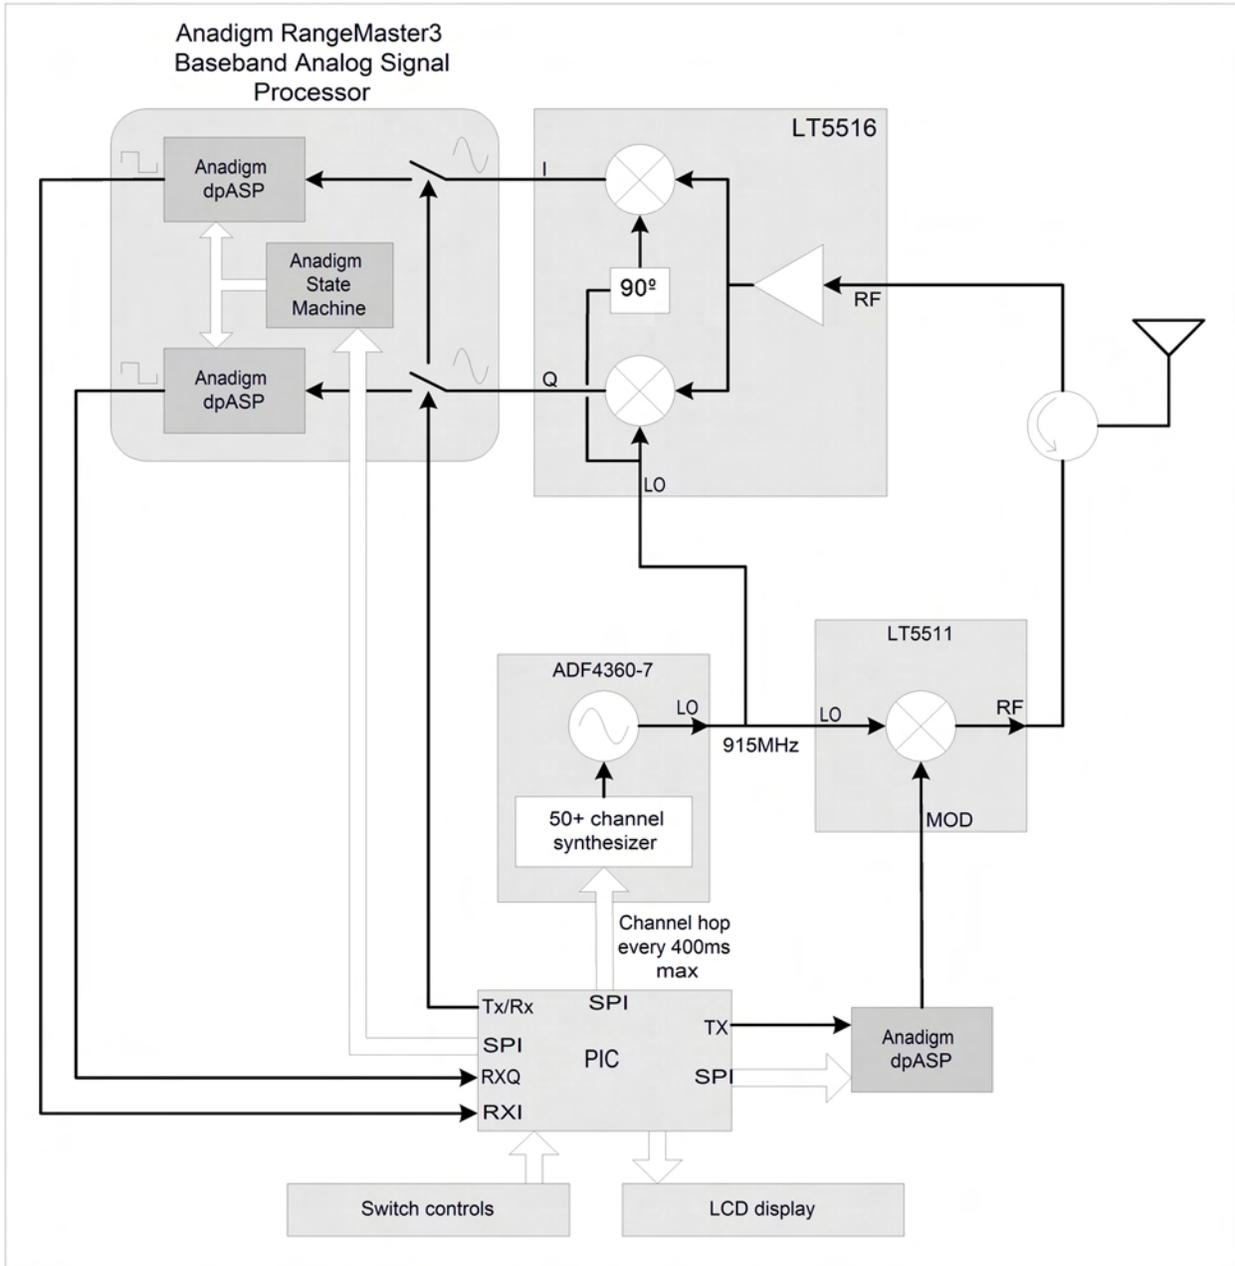

Figure 1: RFID Reader block diagram
An RFID Reader works by first transmitting information to a tag by modulating an RF signal, typically in the range 860MHz – 960MHz. The tag receives both information and operating energy from this RF signal, and then responds by modulating the reflection coefficient of its antenna, thereby backscattering an information signal to the interrogator. The reader has to transmit a continuous-wave signal to the tag in order to receive the tag's response. This means that the reader has to extract small low frequency modulations from the large high frequency transmit signal. It does this by mixing a reference signal, which is the un-modulated transmit carrier signal, with the receive signal to cancel out the transmit frequency, leaving just the modulation frequencies. An example of such an RFID reader is shown in figure 1.
In figure 1, the system controller of the RFID reader is a PIC. This performs the following functions:
2. Controls the channel hopping – there are regulations that demand that a reader must randomly channel hop between a set of carrier frequencies at regular intervals. In the US the regulations (FCC Part 15.247) demand channel hopping using a minimum of 50 channels with a maximum dwell time of 400mS. In figure 1 an ADF4360-7 provides the 915MHz carrier signal with multiple channels controlled by the PIC via a serial interface..
In figure 1, the receive signal demodulator is shown as an LT5516. This circuit takes a reference oscillator which in this case is the 915MHz generated by the ADF4360-7. It then mixes the received signal with this reference oscillator to reproduce the modulation signal. Since it is possible to get a zero signal out of a mixer by sampling the received signal at a zero crossing, 2 mixers are used in the LT5516 down-converting mixer, each using a version of the reference oscillator that is 90° out of phase with respect to the other. This ensures that at least one of the mixer outputs has acceptable amplitude. These 2 mixer outputs are called I and Q channels.